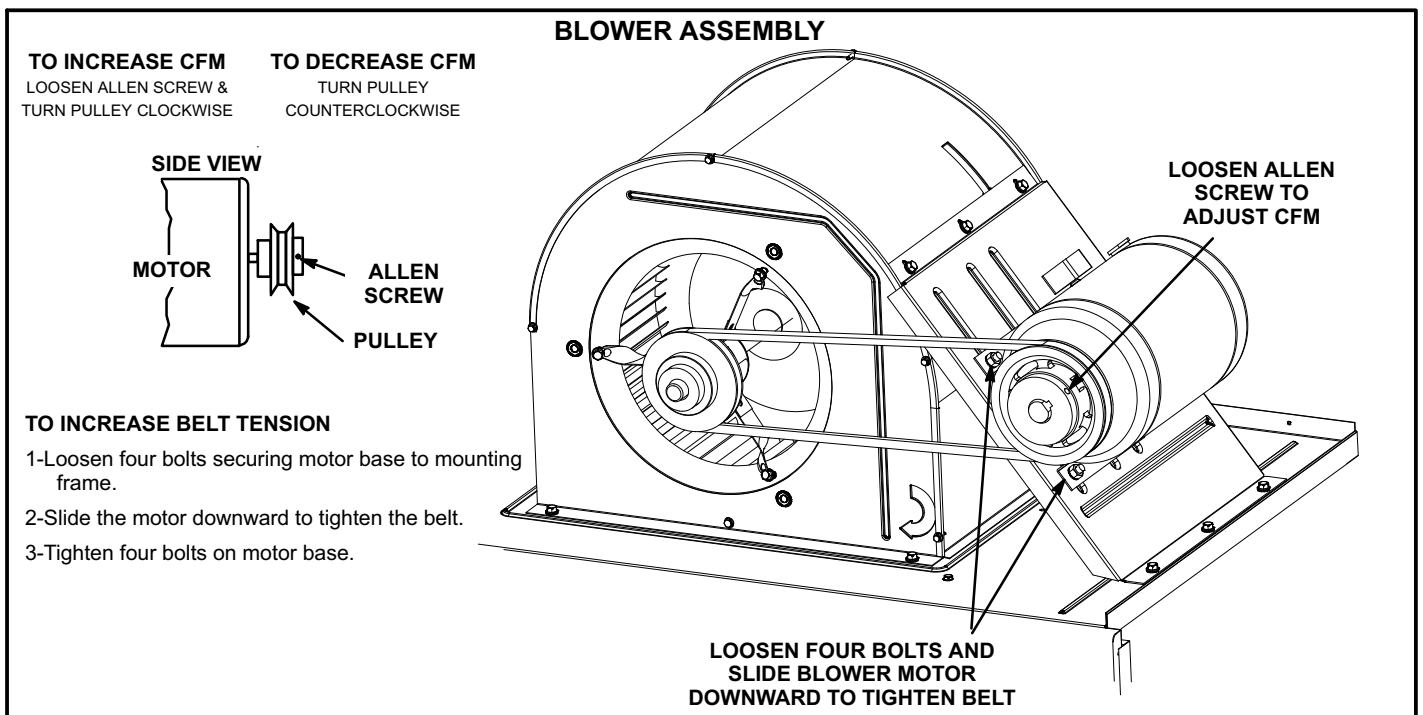

FIGURE 8
The blower RPM can be adjusted at the motor pulley. Loosen Allen screw and turn adjustable pulley clockwise in 1/2-turn increments to increase CFM. Turn counterclockwise in 1/2-turn increments to decrease CFM. See figure 8. Do not exceed minimum and maximum number of pulley turns as shown in table 3.
- 1- Loosen four bolts securing motor base to mounting frame. See figure 8.